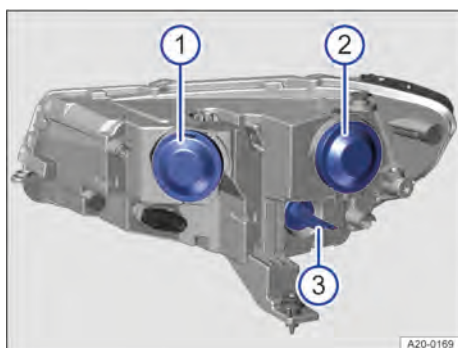

Fig. 171 In the engine compartment: covers on back of the right-hand headlight.
3. Pull the rubber cover → Fig. 171 ① off the back of the headlight.
7. Fit the rubber cover → Fig. 171 ① to the back of the headlight.
3. Pull the rubber cover → Fig. 171 ② off the back of the headlight.
7. Fit the rubber cover → Fig. 171 ② to the back of the headlight.